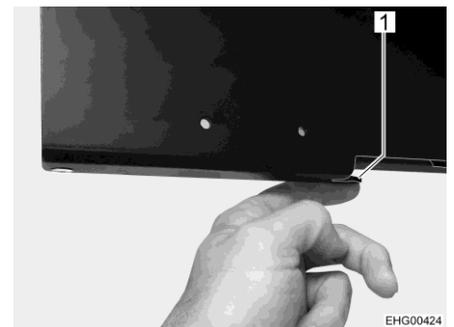

Fig. 96 Unlocking swivel mechanism
- To swivel the flat screen to the desired position: press black lever (Fig. 96,1) at the bottom of the pull-out plate and swivel flat screen.